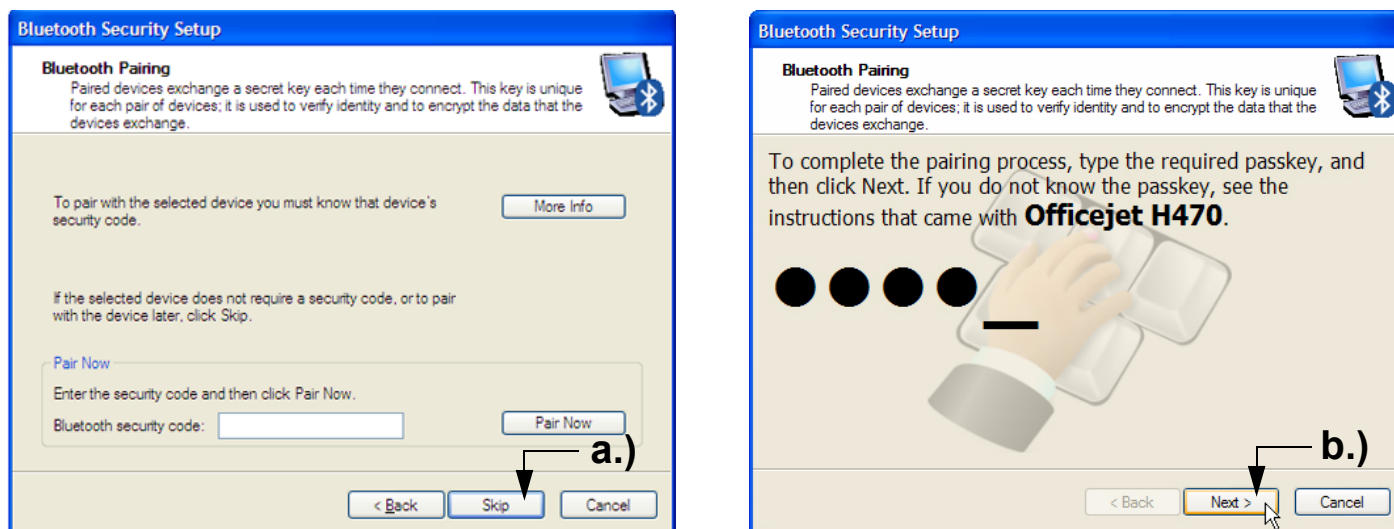

Figure 3-36 Bluetooth Security Setup
11.) The appearance of the “Bluetooth Security Setup” window (Figure 3-36 below) depends on your printer.